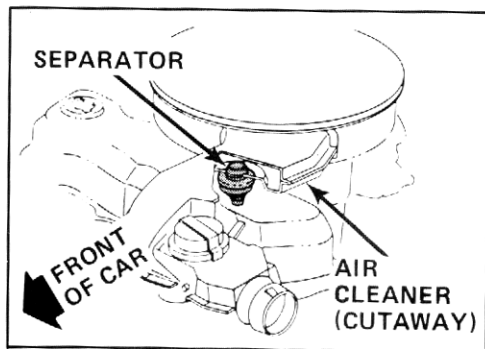

Figure 3 - Top of engine
4. The crankcase separator (L4 only) is located between the air cleaner and valve cover. See Figure 3. With both hands, pull air cleaner up and away from the fuel injector unit and the separator. Do not disconnect any rubber tubing. Move the air cleaner off to the side.